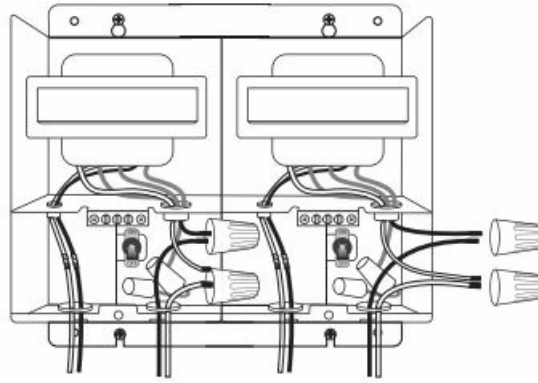

Figure 5
6. Use the included wiring caps to connect the output line of the transformer with your load input line, then place the connected line in the Low Voltage Wiring Compartment.(Figure 5) Note: (1) If the load has a ground wire, connect the ground wire to the Ground Terminal.(2)Do not remove the terminal block of the unused output line port, or it will cause a short circuit.